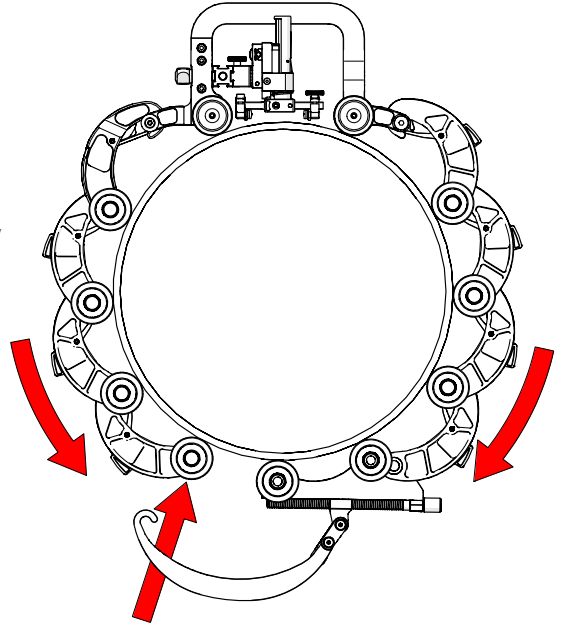

Fig. 79 - Hook QuickLink Buckle to QuickLink
- Bring the QuickLink Buckle's arm towards the opposite QuickLink. Hook the QuickLink Buckle's arm to the middle axle of the QuickLink (Fig. 79). The QuickLink Buckle adjustment knob (Fig. 80-1) may have to be loosened to allow the arm to reach the QuickLink.